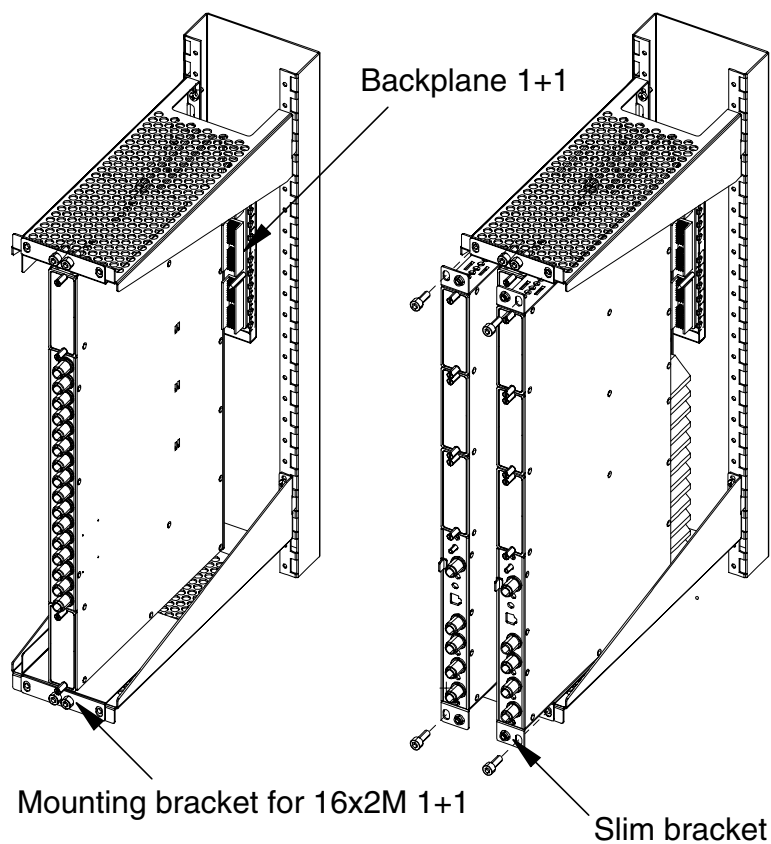

Figure 14. Installing FIU 19 16 x 2M 1+1 in a TM4 slim rack
To install FIU 19 (E) with 16 x 2M capacity and 1+1 protection in a slim rack, follow the instructions in Section 4.1.3. Ignore the use of rack mounting nuts. They are not needed in this installation. Fix the units to the rack as shown in Figure 14.